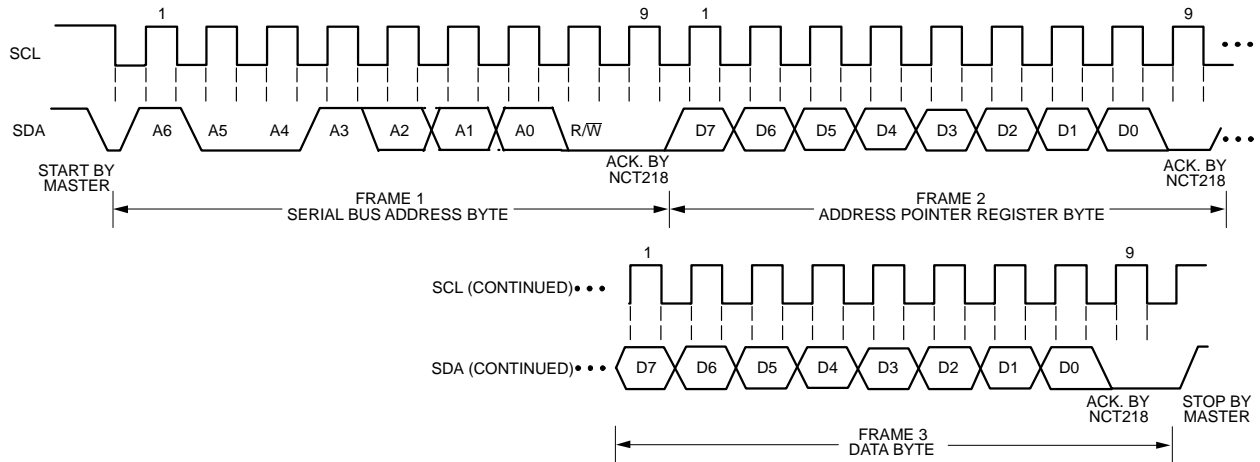

Figure 6. Writing a Register Address to the Address Pointer Register, then Writing a Single Byte of Data to a Register
- If the address pointer register is known to be at the desired address, data can be read from the corresponding data register without first writing to the address pointer register and the bus transaction shown in Figure 6 can be omitted.